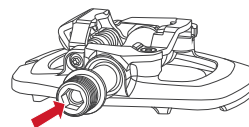

Figure 1. Hex fitting on pedal spindle
3. With a 8mm hex wrench from the backside of the pedal spindle (Figure 1), tighten the pedals into the crank arms to 350-380 lb•in (40.2-42.9 Nm).